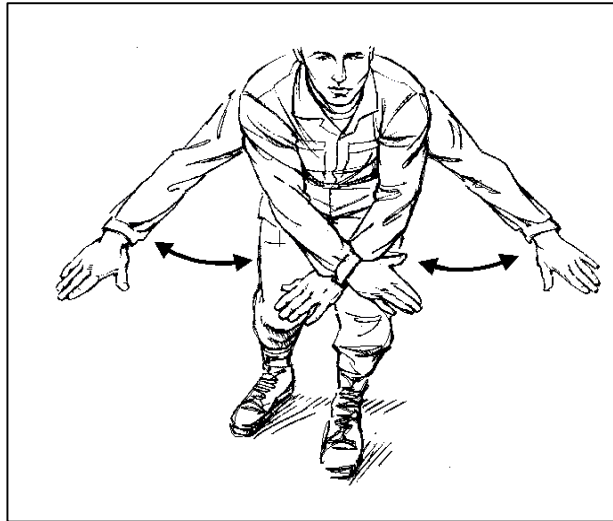

Figure 3-9. Arm-and-hand signal for SIT IN THE DOOR.
(2) **SIT IN THE DOOR** (Figure 3-9). The rappel master extends both arms to the front with elbows locked, fingers extended, thumbs running along the index fingers, and palms facing downward. He bends slightly at the waist so that the arms are below the waist. Then, he moves both arms in a crisscross waving motion, alternating left over right and right over left.